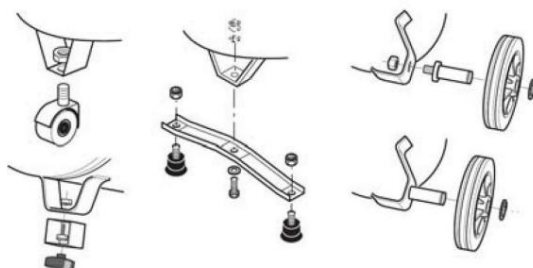

Fig. 3: Wheel assembly
Step 1: If necessary, first mount the wheels and/or vibration protection elements (Fig. 3).